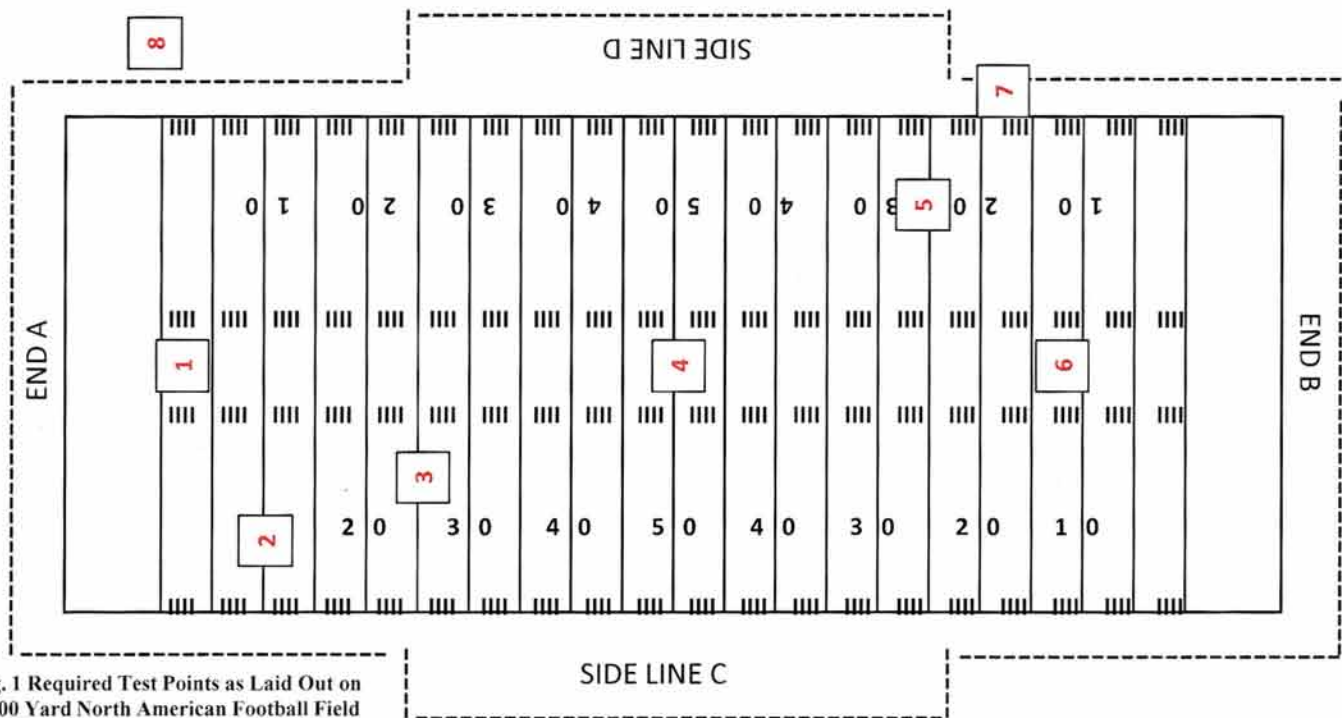

Fig. 1 Required Test Points as Laid Out on a 100 Yard North American Football Field
- For North American football fields with Canadian or other configurations differing from Figure 1, adjust the test point location to like locations on the field and record the test points in accordance with 11.1.9